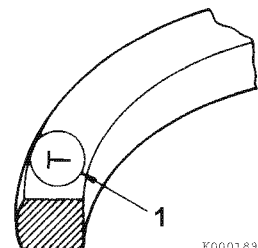

Figure 6-92
- The top and second piston rings must be installed with the stamped "makers mark" (1, **Figure 6-92**) facing the top of the piston. The "makers mark" may vary in appearance but will always be located on the top surface of the piston ring adjacent to the piston ring gap. The oil ring and oil ring expander can be installed either side up.